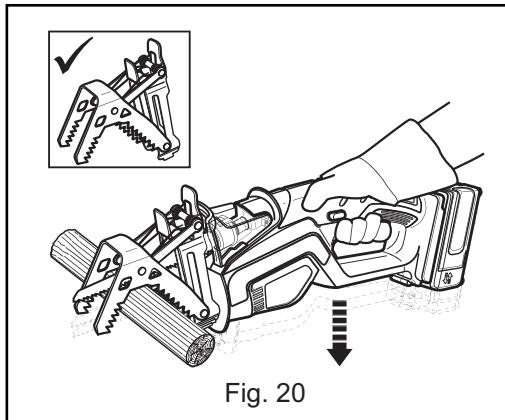

Fig. 20
- Slowly lower the saw blade into the workpiece applying light pressure downward (Fig. 20).